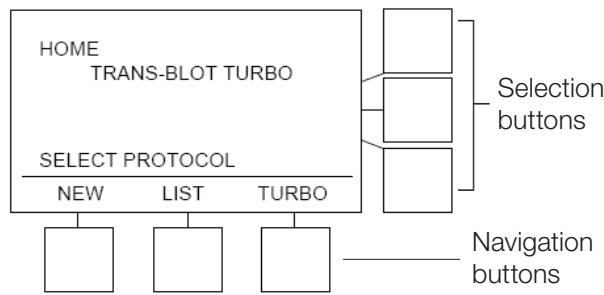
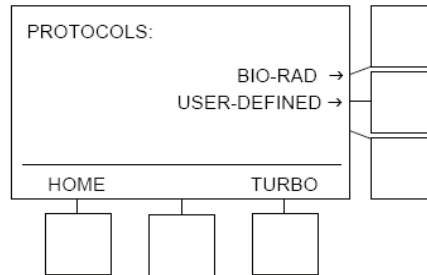

Fig. 12. Home Screen of the Trans-Blot Turbo system.
Fig. 16. Protocol options.
2. On the Home screen press the Navigation button that corresponds with Turbo (Figure 12).
On the Home screen press the Navigation button that corresponds with LIST (Figure 12) to choose between the Bio-Rad preprogrammed protocols and user-defined protocol lists (Figure 16).
On the Home screen (Figure 12), press the navigation button that corresponds with NEW.